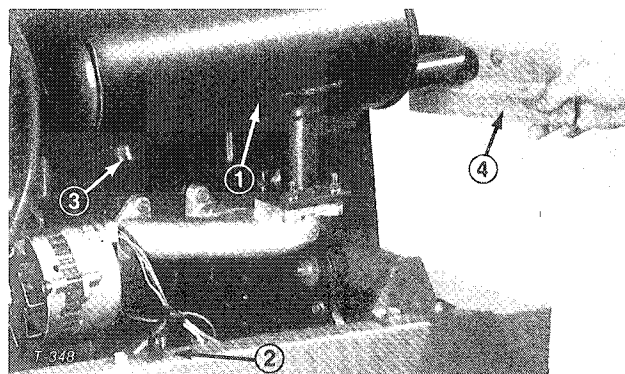

Figure 49
2. Remove pipe plug from clean-out port at lower side of muffler (Fig. 49).
3. Start engine. Plug the normal muffler exit with block of wood or metal plate so exhaust flow will be forced out of the clean-out port (Fig. 49). Continue to block exit until carbon deposits cease coming out port.